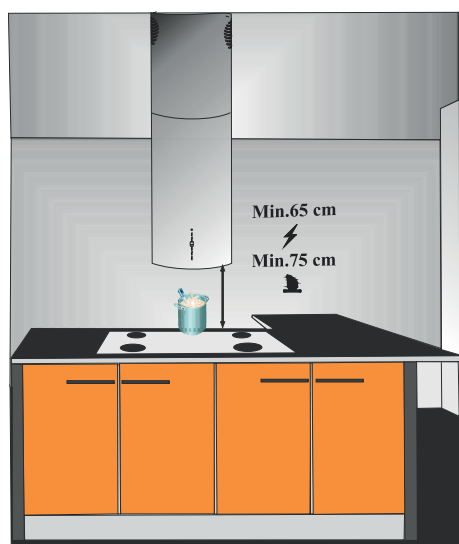

Fig. 10
- After completing the installation of hood, the minimum distance must be 65 cm between the product and any electric cooker; and 70 cm between it and any gas ranges or cookers burning other fuels (Fig. 10).